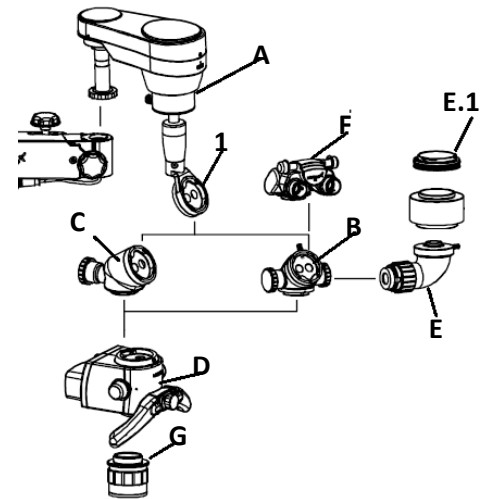

Fig. 33
- a. Open the Box and take out the ABA arm with mount for DBS (A). Loosen the M4 grub screw of Mount (1) by 2mm allen key and Fix Double Beam Splitter inclined (B) or SBS-R Single Beam Splitter Rear View (C) as required on to the mount (1) by re-tightening the m4 grub screw. Ref. fig. 33
- b. Loosen the M4 grub screw by 2mm allen key on Double Beam Splitter inclined (B) and fix Magnichanger (D) and re-tighten the M4 grub screw. Ref. fig. 33
- c. Remove the End cap from Double Beam Splitter inclined by rotating the ring in Anticlockwise and fix DSLR Camera adapter (E) by matching the slot and rotate the ring clockwise to tighten the same. Loosen the M4 Grub screw by 2mm allen key on DSLR adapter and fix the supplied Mount (Canon, Nikon, Sony (E.1). Retighten the M4 grub screw to secure C-mount. Ref. fig. 33
- d. Loosen the M4 grub screw in DBSi by 2mm allen key and fix the Ergo Head 0°-210° Tiltable Binocular (F). Re tighten the M4 grub screw. Ref. fig. 33
- e. Fix the NuVar Variable objective (G) by rotating in clockwise position. Ref. fig. 33
- f. Set both eyepieces to (0) dioptrre on ergo head.